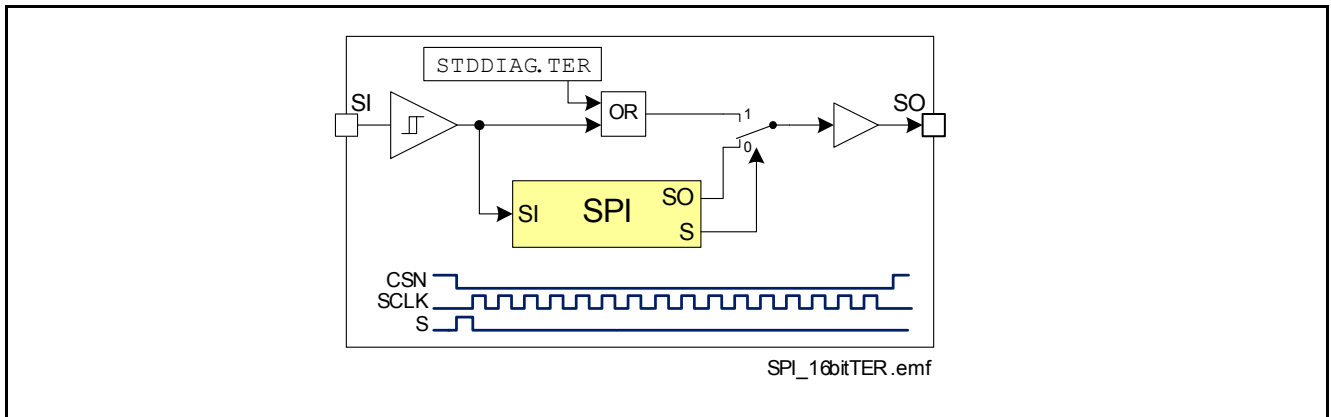

Figure 12-2 Combinatorial Logic for TER bit
- TER Flag will set the Bit number 10 in the STD diagnosis Frame. This Bit is set to HIGH after an undervoltage condition, reset via SPI command, on Limp Home state entering or after an incorrect SPI transmission. TER Flag can be read also directly on the SO line between the falling edge of the CSN and the first rising edge of the SCLK according to the Figure 12-2.